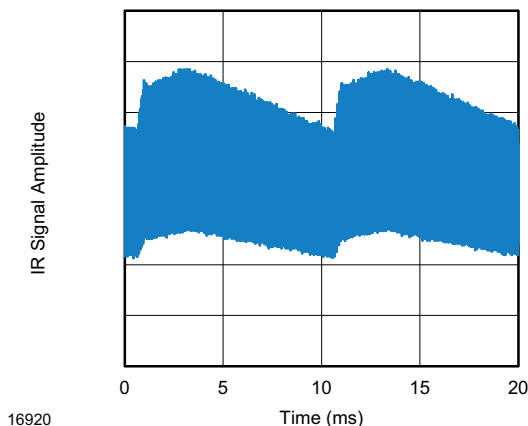

Fig. 13 - IR Emission from Fluorescent Lamp With Low Modulation
- Strongly or weakly modulated patterns from fluorescent lamps with electronic ballasts (see Fig. 13 or Fig. 14)
Suppression of interference from fluorescent lamps	Fig. 13 and Fig. 14